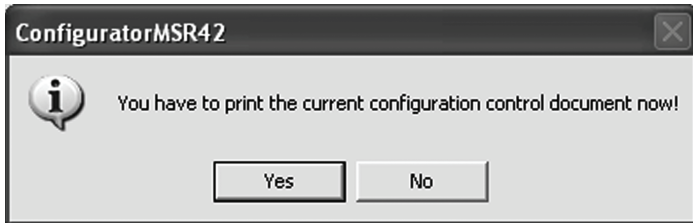

Figure 49: Print Configuration Control Document
14. Print “Configuration control document” (*Figure 49*).